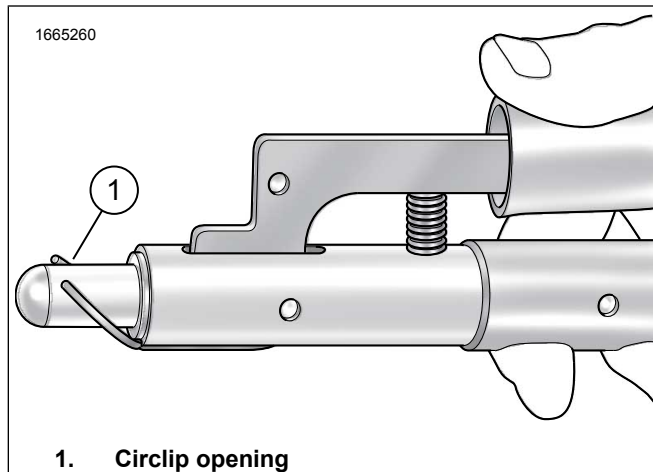

Figure 3. Position Circlip
1. Figure 3 Position circlip opening (1) at 12 o'clock on special tool.